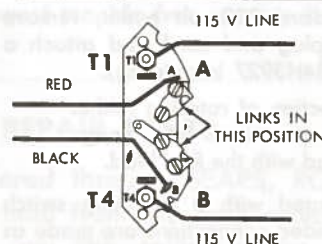
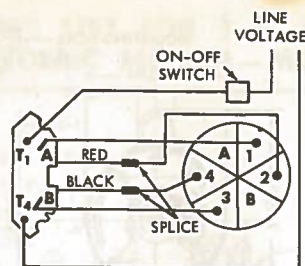

Figure 4
Figure 7
- For operation on 115-volts, one power lead is connected to terminal post "T1" (or the quick connect tab next to it). The other power lead is connected to terminal post "T4" (or the quick connect tab next to it). The two movable links must be in position shown in figure 4. The Red motor lead is connected to terminal "A"; the Black motor lead to terminal "B".
8. The motor may be operated with a reversing switch (9M2982 in catalog), provided connections are made as shown in figure 7. The motor must come to a complete stop before reversing can be accomplished. If motor rotation does not correspond to switch notations, interchange switch leads 2 and 4. (The reversing switch connection applies to both 115-volt and 230-volt operation and position of links should be for desired voltage, as shown in figures 4 and 5.)
**IMPORTANT:** In order to use this reversing switch with this motor, an additional "ON-OFF" switch must be connected into the supply line. (See figure 7.) This "ON-OFF" switch must be in the "OFF" position before motor rotation can be changed by the reversing switch. The "OFF" position of the reversing switch WILL NOT turn the power off and should be disregarded.